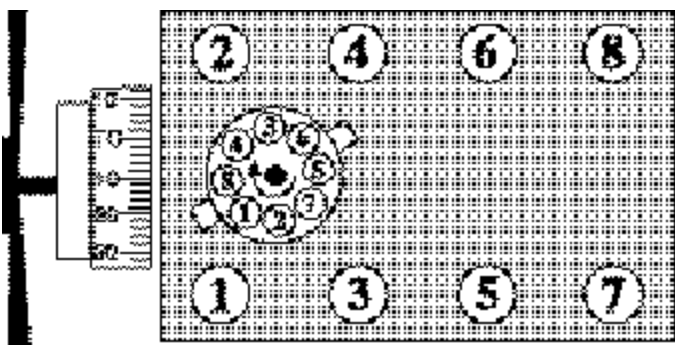

Figure 1 - 304-401 c.i.d AMC V8
1. Turn the engine over in direction of rotation until the No. 1 intake valve closes and continue until the pointer on the front cover is approximately five degrees before top dead center (BTDC). See Figure 1 for firing order.